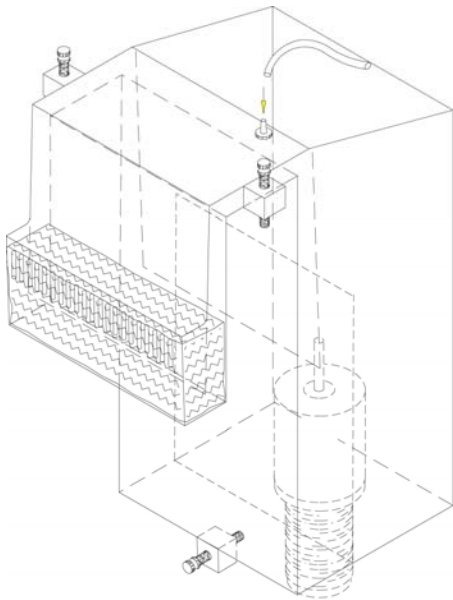

Fig. 1
6. Adjust the height of the unit with the two top adjustment screws so the water level is about ¼” above the edge of the front chamber.(FIG 1) Make sure that the overflow is level with the water surface, not necessarily the tank, as some tanks may not be perfectly level.